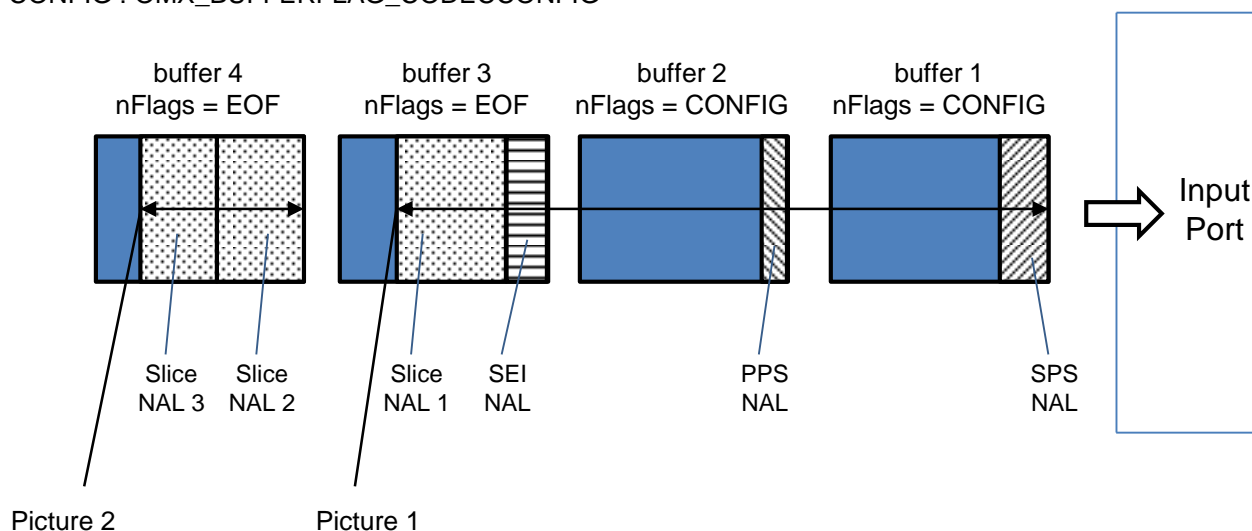
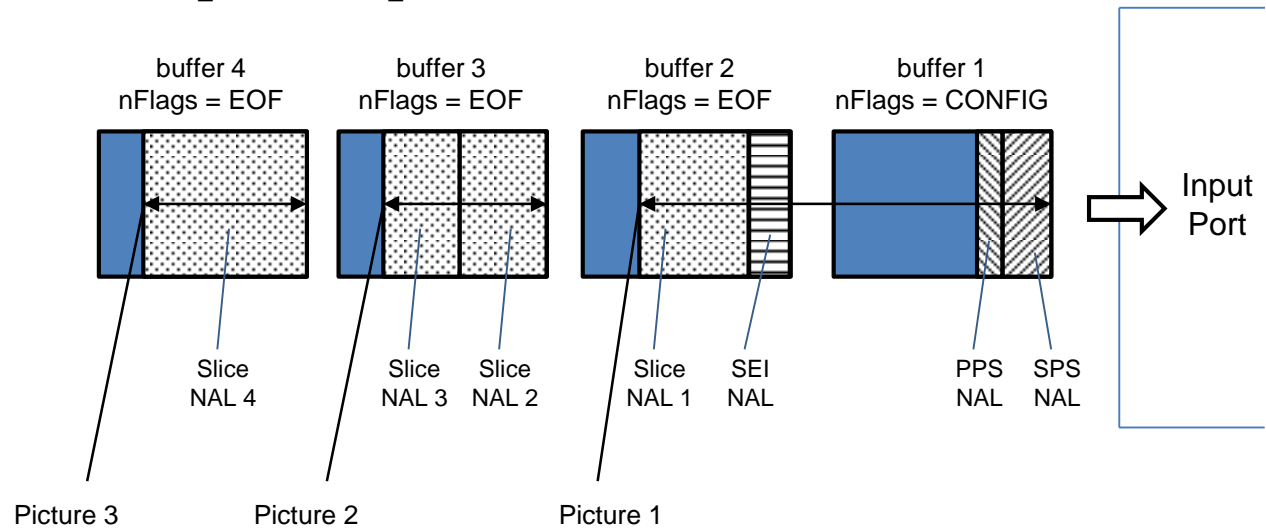

Figure 3-4 Example of Input Buffer Sequence - SPS NAL and PPS NAL is stored in each buffer
Figure 3-5 Example of Input Buffer Sequence - SPS NAL and PPS NAL are stored in the same buffer
- When SPS NAL and/or PPS NAL input is separate from a picture data, OMX_BUFFERFLAG_CODECONFIG must be set in the *nFlags* member of the OMX_BUFFERHEADERTYPE structure of a buffer contains SPS NAL and/or PPS NAL (see Figure 3-4 and Figure 3-5).